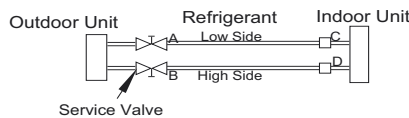

Fig. 14 – Service Valve
1. Completely tighten flare nuts A, B, C, D, connect the manifold gage charge hose to a charge port of the low side service valve (see Fig. 14).